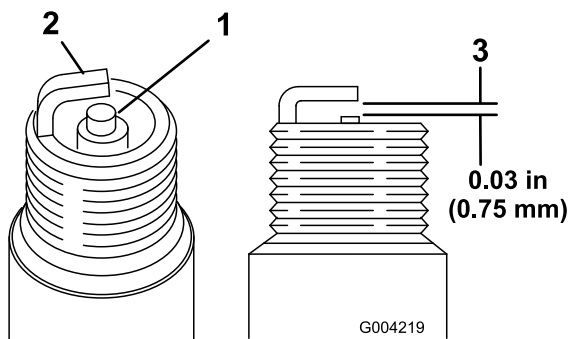

Figure 51
1. Look at the center of both spark plugs (Figure 51). If you see light brown or gray on the insulator, the engine is operating properly. A black coating on the insulator usually means the air cleaner is dirty.
2. Check the gap between the center and side electrodes (Figure 51).
3. Bend the side electrode (Figure 51) if the gap is not correct.